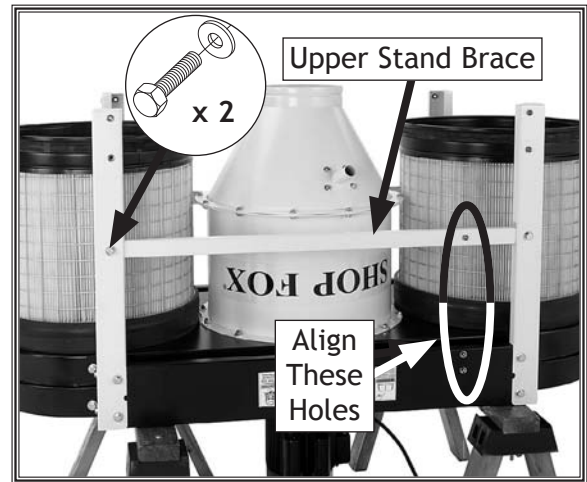

Figure 13. Upper stand brace connected to the upper stand legs.
- Connect the two upper stand braces to the upper stand legs with (4) $\frac{3}{8}$ "-16 x $\frac{3}{4}$ " hex bolts and (4) $\frac{3}{8}$ " flat washers, as shown in **Figure 13**.
Note: Orient the braces so that the off-center third hole is aligned with the two mounting holes in the blower housing bracket, as shown in **Figure 13**. These mounting holes are for attaching the remote magnetic switch in the next step.